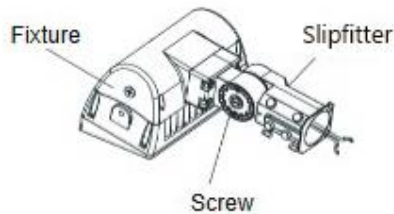

Figure 2.1
- Step 2. Connect the line wire through the slipfitter to the fixture wire, black to black, white to white, and green to green. Use only UL listed wiring. Purple and pink wires are 0-10V (low voltage) dimming leads. Connect to low voltage dimming wiring only. Stuff wiring into the pole (Figure 2.1)